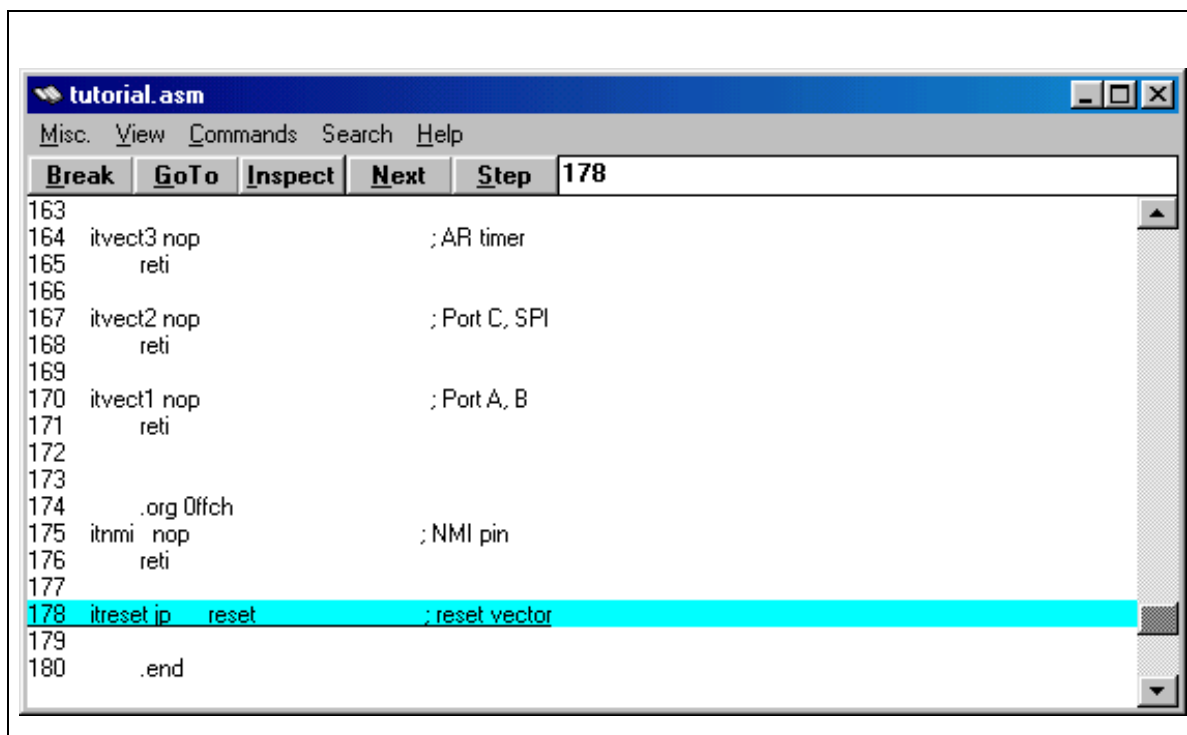

Figure 11: tutorial.asm window
- 9 A window titled **tutorial.asm** (see *Figure 11*) pops up and the title of the **Control Bar** changes to **ST626x Emulator tutorial.hex**.